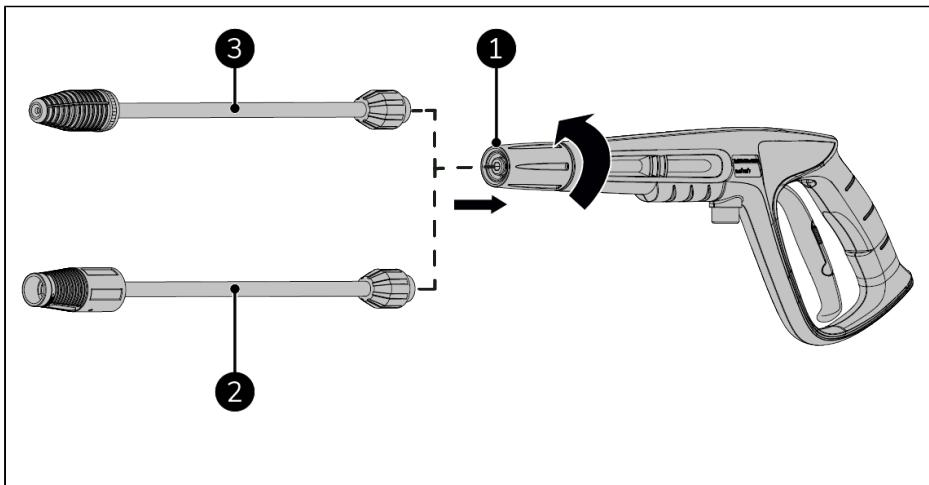

Figure 34.
1. Tightly screw the following attachment onto the jet gun (Figure 34, pos. 1):
- adjustable nozzle (Figure 34, pos. 2), or;
- turbo nozzle (Figure 34, pos. 3).